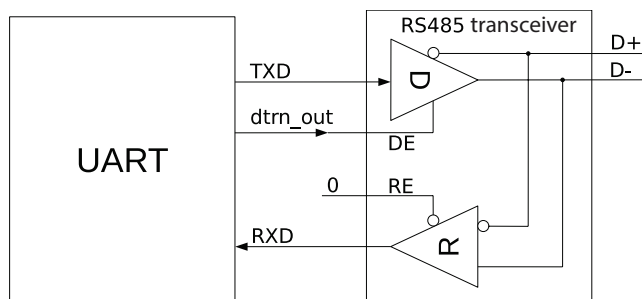

Figure 19-8. Driver Control Diagram in RS485 Mode
As shown in Figure 19-8, in a two-wire multidrop network, an external RS485 transceiver is needed for differential to single-ended conversion. A RS485 transceiver contains a driver (D) and a receiver (R). When a UART controller is not in transmitter mode, the connection to the differential line can be broken by disabling the driver (D). When DE is 1, the driver is enabled; when DE is 0, the driver is disabled.
DE can be controlled by either software or hardware. To reduce the cost of software, in our design, DE is controlled by hardware (can still be controlled by software). As shown in Figure 19-8, DE is connected to `dtrn_out` of UART (please refer to Section 19.4.8.1 for more details).
In a two-wire multidrop network, UART controllers support bus snooping if RE of the external RS485 transceiver is 0. By default, a UART controller is not allowed to transmit and receive data simultaneously. If `UART_RS485TX_RX_EN` is set and the external RS485 transceiver is configured as in Figure 19-8, a UART controller may receive data in transmitter mode and snoop the bus. If `UART_RS485RXBY_TX_EN` is set, a UART controller may transmit data in receiver mode.